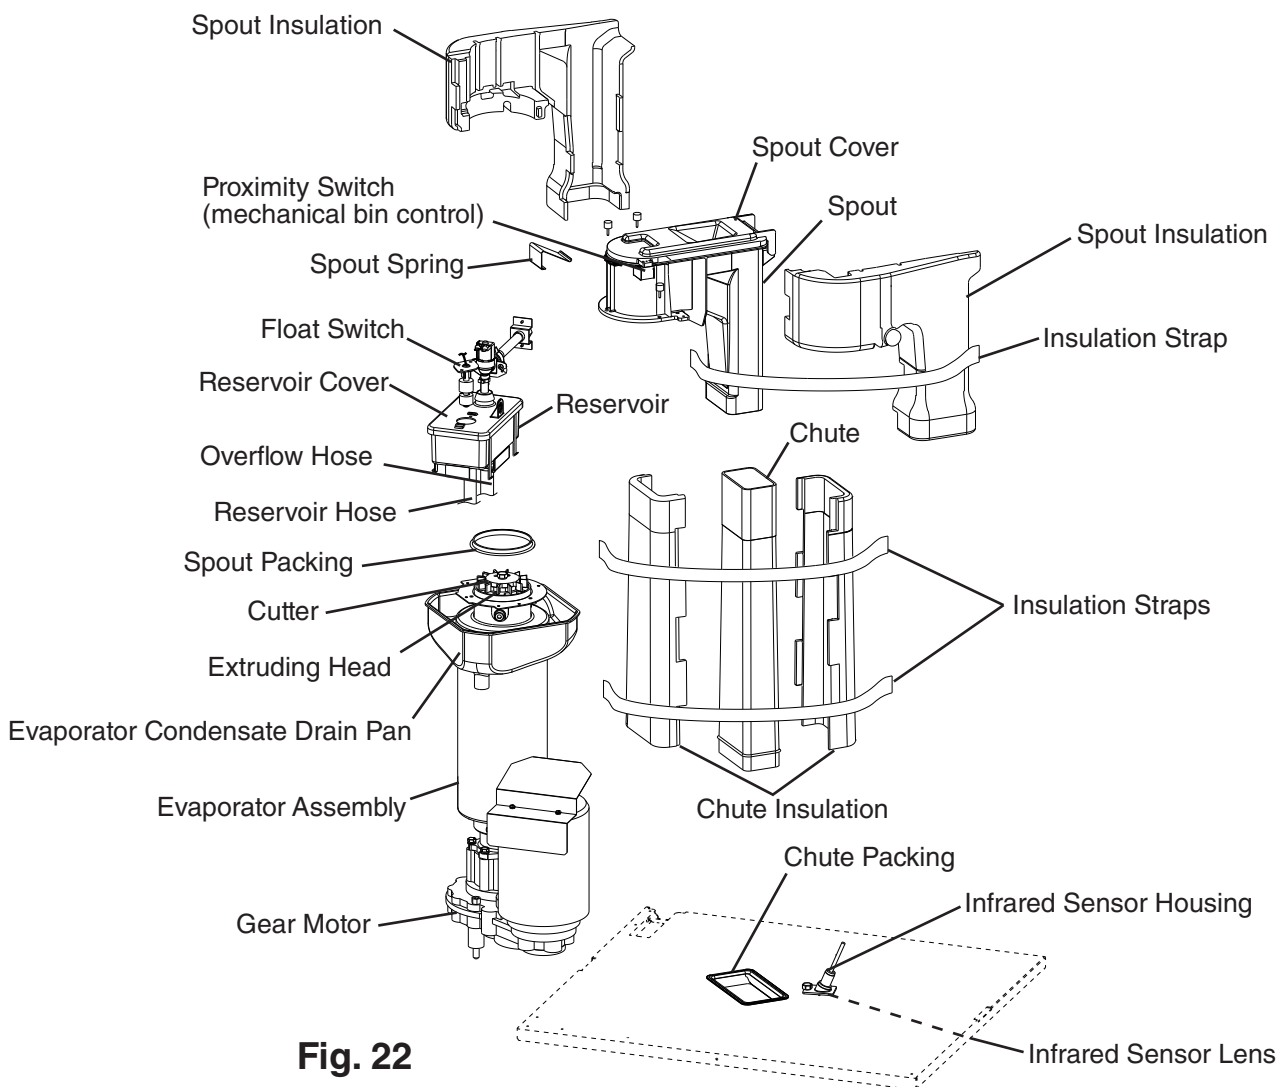

Fig. 22
- 6) Remove the spout spring, then open the spout cover. See Fig. 22.
- 2) Remove the spout spring, then open the spout cover. See Fig. 22. Next, remove the proximity switch from the spout assembly, then remove the spout and chute assembly, and spout packing from the icemaker.